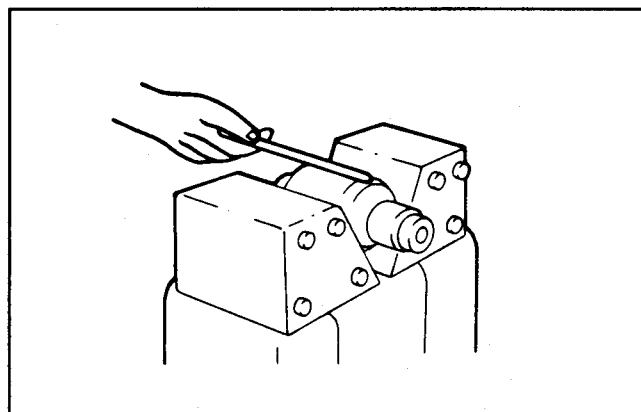

Figure 33
11. Put the armature on a growler tester to check for a shorted armature (Fig. 33). A burned commutator bar is an indication of a shorted armature. With the growler turned on, put a thin strip of steel or a hacksaw blade on the armature as it is slowly rotated. If the metal strip vibrates over a winding, that winding is short circuited. Short circuited windings are sometimes caused by metal in the commutator bridging the gap from on commutator bar to the next. By removing the bridged metal, this condition can be corrected. If this does not correct the short replace the armature.